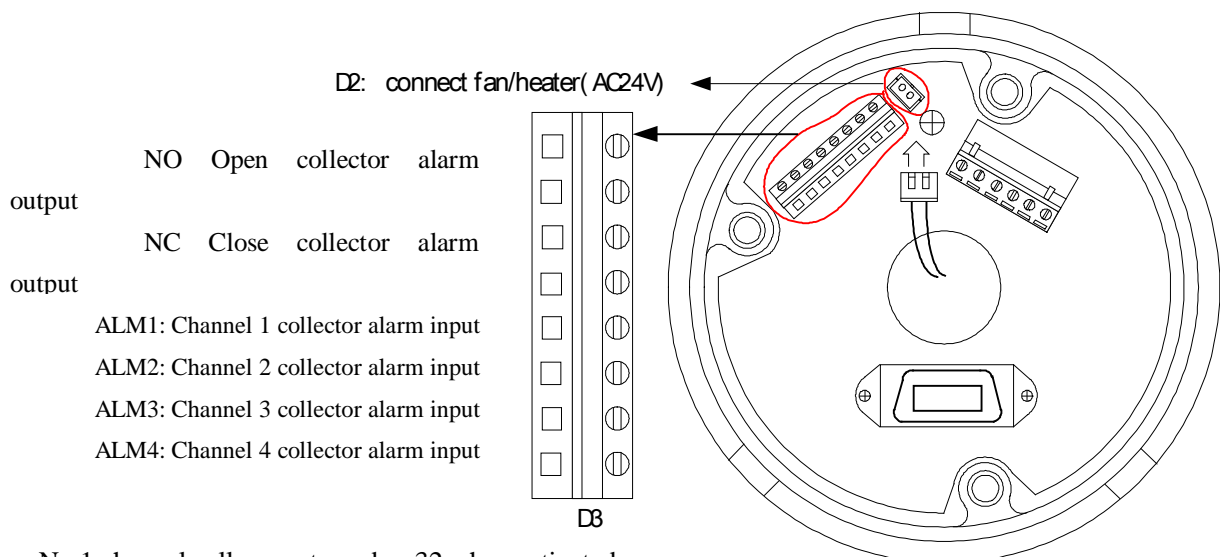
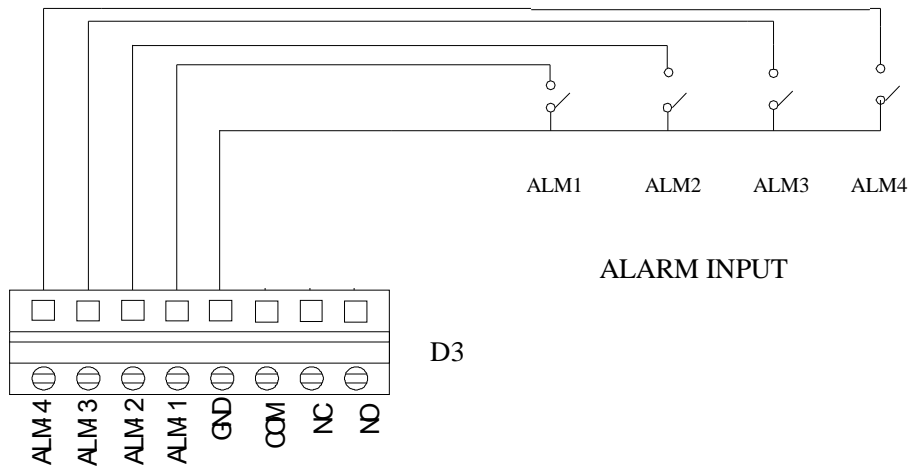

Figure 8
Figure 9
- 2.5 Insert attachment plug into socket D2 on the aluminium alloy assembly. Refer (Figure 8).
Refer to Fig 8 to locate the D3 connector. You will need to decide how many alarm channels will be utilised. For each alarm channel you will need a pair of cable connections and it is recommended that a CAT5 twisted pair be utilised. Connect one core to the selected input alarm channel and the other to the ground (GND) connection. The ground is a common connection for all four alarm channels. At the alarm end (see Fig 9) connect to the alarm device. This must be a 0 volt switch and maybe for example a door switch. Check that the alarm device passes a voltage free switch as any other input signal may damage the dome.